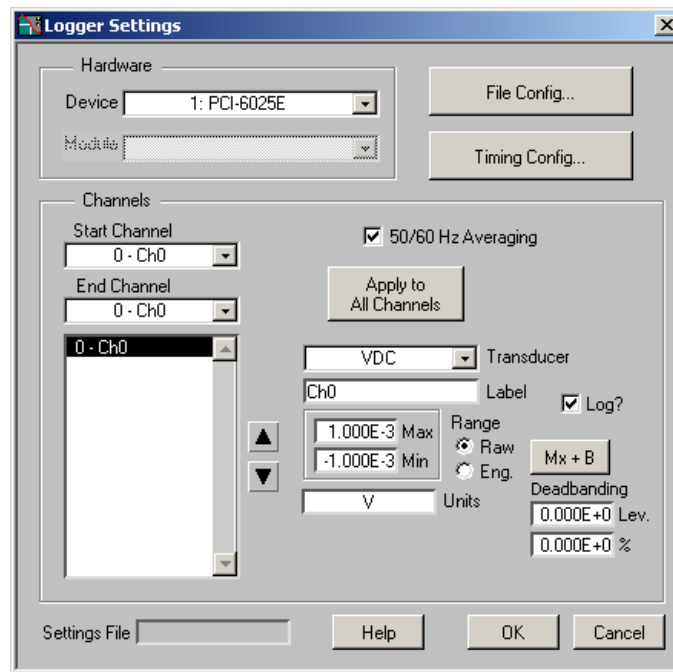

Figure 8. Logger Setting Window
- Select the Logger from the Virtual Bench tool bar. Then select the *Edit, Settings* menu item to see the Logger Settings window of Figure 8. Set the Start Channel and End Channel to the lowest available channel. Typically this
- The final item to setup is the file configuration. This includes enabling the program to log the data to a file and specifies the file name. To accomplish this click the *File Config...* button in the **Logger Settings** Window (Figure 8).